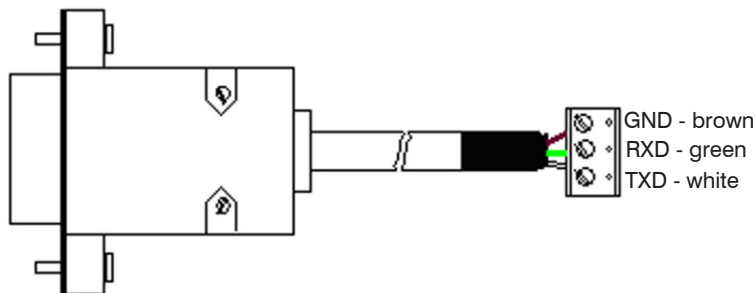

Fig. 18 Pin assignment RS232
- **i** Make sure the wiring is correct according to the drawing and designation printed on the interface board, see Fig. 18.